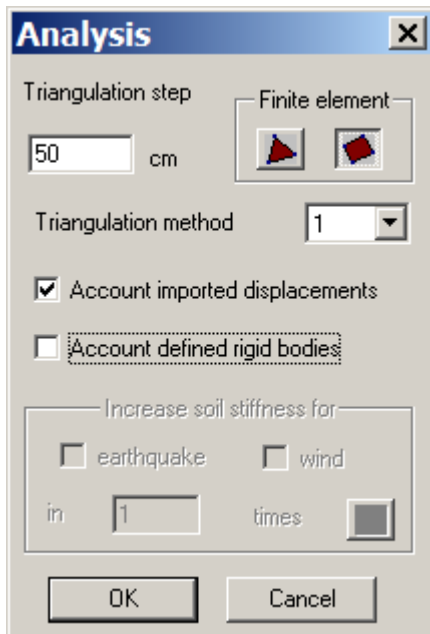

Figure 2.3.1. **Analysis** dialog box
- ⇒ In the **Analysis** dialog box (see Fig.2.3.1) all parameters remain by default.